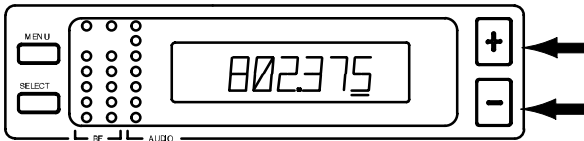

FIGURE 19
4. Press the “+” or “-” button to increase or decrease the setting in incremental steps until reaching the desired frequency. See Figure 19.